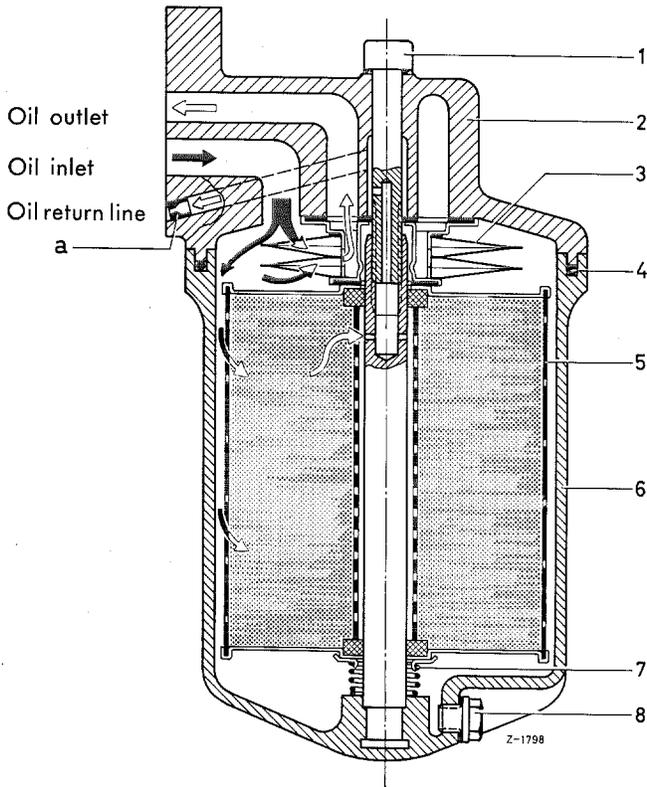

Figure 18-7/6
b) **Combination main and by-pass oil filter**, installed in engines of types 621.912 (model 190 Dc) and 621.913 (L and O 319 D) (see Figure 18-7/6).